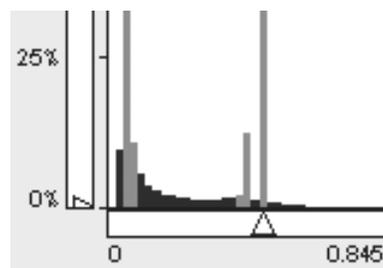

Figure 5-77. The Frequency Selection tool.
- The Frequency Selection tool is used to isolate specific frequencies for retention by clicking and dragging the yellow pointer in the horizontal axis, as shown in Figure 5-77. This can be repeated at different frequencies.